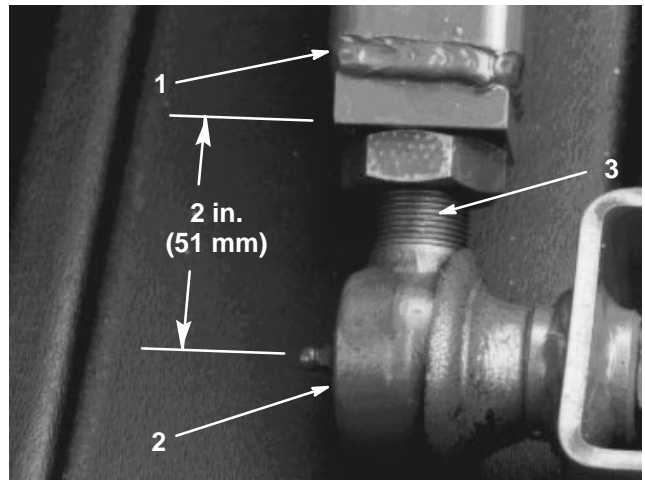

Figure 4
2. Measure the distance from the end of each lift arm to the center of the ball joint (grease fitting). The distance should be 2 in. (51 mm) (Fig. 4). If distance is not 2 in. (51 mm), loosen the jam nut securing the ball joint to the lift arm and rotate the ball joint in or out until the distance is attained. Do not tighten the jam nuts at this time.